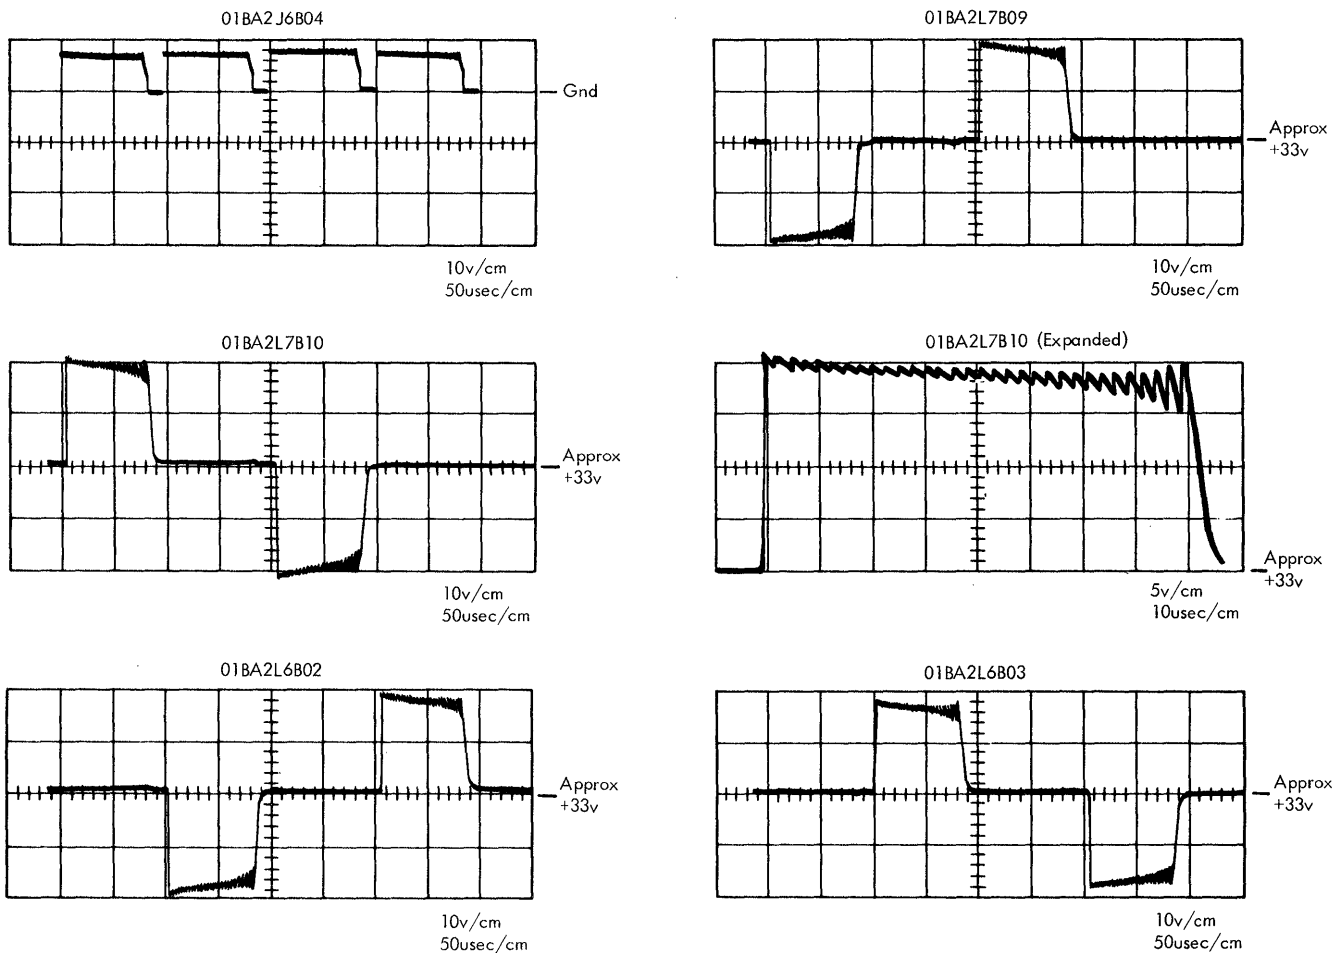

Figure 1-21. AVG Waveforms
13. With the exception of the waveforms in Figure 1-21, the previously shown waveforms should not be altered (except a longer time base) as a result of the absolute vector graphic feature. Use the Full Square program, sync at 02BB1J2B04, and scope at points called out in Figure 1-21.